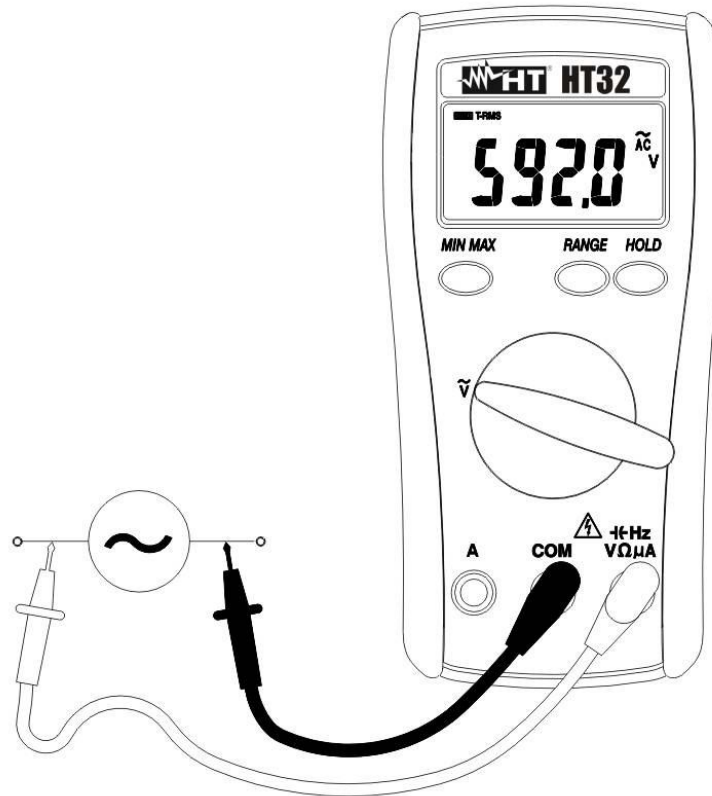

Fig. 3: AC Voltage measurement
2. Insert the test leads into the jacks, the red plug into $\rightarrow HzV\Omega\mu A$ jack and the black plug into **COM** jack (Fig. 3).